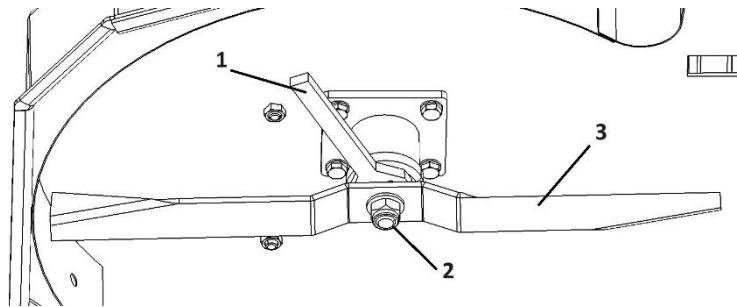
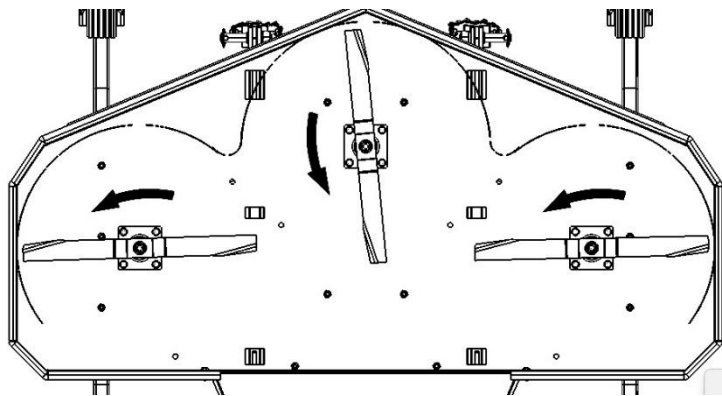

Fig. 2. Blades replacement: 1 – wrench, 2 – blade fixing nut, 3 – blade
Fig. 3. Direction of blades rotation
- lock a blade so that it does not rotate using a 32mm wrench (1 in Fig. 2)
- unscrew the blade fixing nut (2 in Fig. 2),
- replace the blade (2 in Fig. 2) with a new blade and pay attention to the correct assembly of the cutting edge so that it is aligned with the direction of the blade rotation (Fig. 3);